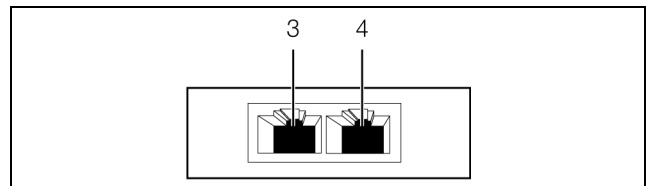

Fig. 8: Rear of the temperature sensor
- Use a CAN bus connection cable to connect the temperature sensor to a CAN bus interface on the CMC III Processing Unit or the neighbouring component on the CAN bus (fig. 8, item 3).
- If necessary, connect another component (e.g. another sensor type) to the second, free CAN bus interface of the temperature sensor (fig. 8, item 4).